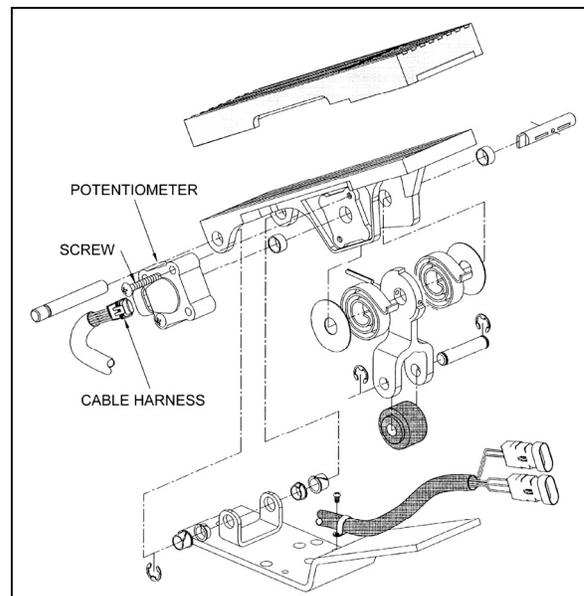

FIGURE 12: ELECTRONIC FOOT PEDAL ASSEMBLY⁰³⁰³⁵
3. Discard potentiometer (Fig. 12).
4. Position new potentiometer. Press potentiometer onto the potentiometer shaft, matching cutouts in shaft to drive tangs of potentiometer. Apply hand pressure until potentiometer has bottomed out in housing. Reinstall screws (Fig. 12) and tighten just enough to secure potentiometer lightly. Tighten screws to 10 - 20 lbf•in (1.5 - .2 N•m).